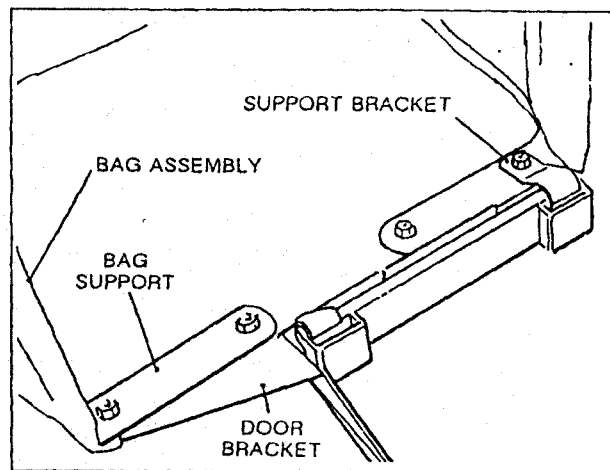

Fig. 3
3. Place door bracket under bag assembly and align holes. Place support bracket into position. Secure door bracket, bag assembly, bag support, and support bracket with (4) screws and locknuts (Fig. 3).